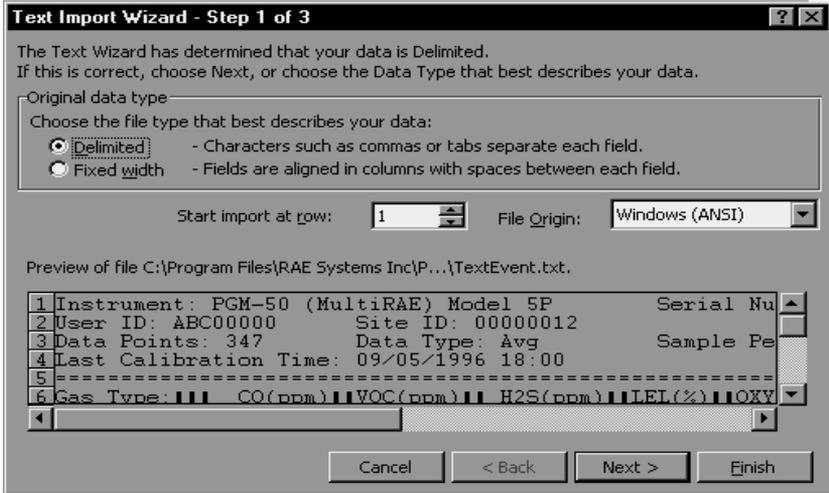

Figure C-3 Text Import Wizard Dialog Box
3. Click **OK** button, a **Text Import Wizard** dialog box is open, as shown in Figure C-3.